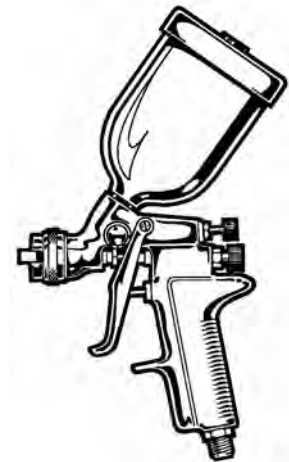

Figure 3- Gravity Feed Gun with attached cup
Figure 3 shows a gun with a cup attached above it.
*Gravity Feed...* the material travels down, carried by its own weight and gravity as in Figure 3.